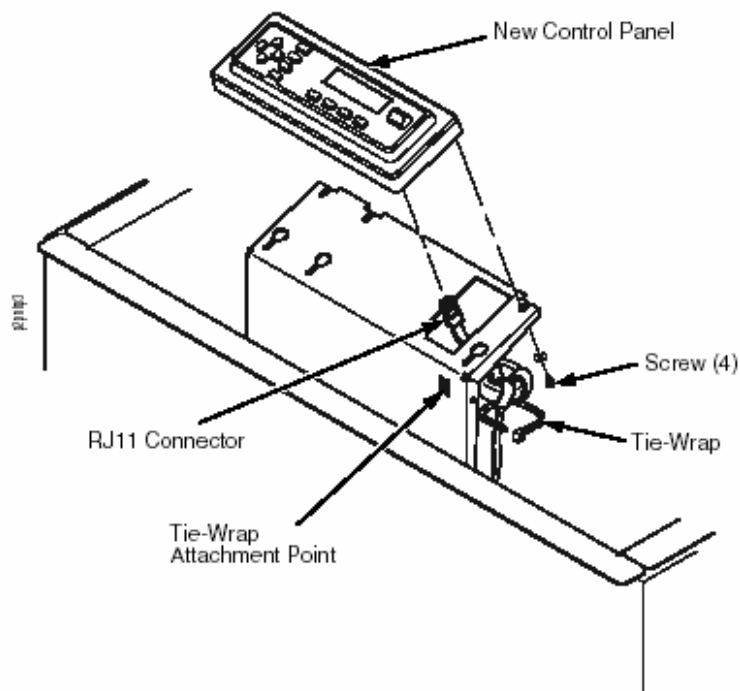

Figure 3. Installing the New Control Panel
1. Install the four mounting screws you removed from the old control panel into the rear of the new control panel. Engage three or four threads but do not tighten the screws yet. (Figure 3.)
2. Route the RJ11 connector up through the square cutout in the new control panel bracket and connect it to J310 in the back of the new control panel. (Figure 3.)
3. Position the new control panel assembly on the new bracket, engage the four mounting screws in the slots and keyways, and hand tighten the screws. (Figure 3.)
6. Install a tie-wrap below the shielding bead so that it secures the control panel cable to the right rear of the bracket. (Figure 3.)